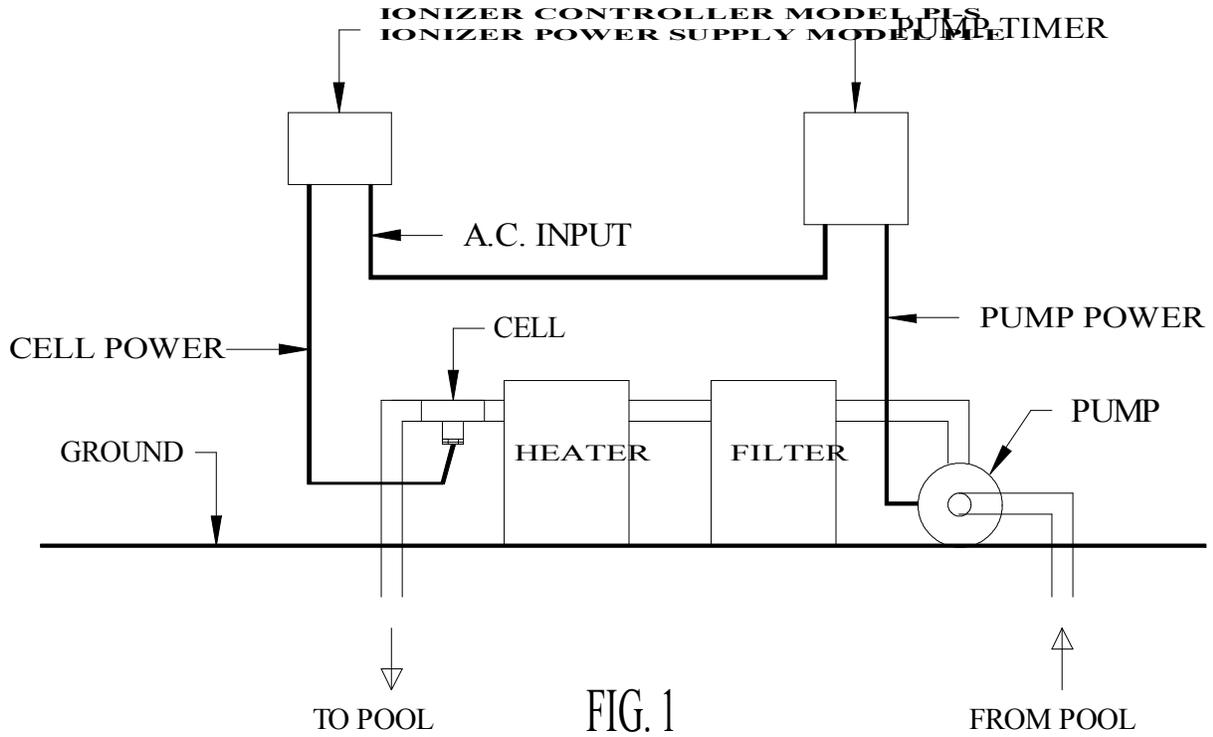

FIG. 1
3. Install the cell after the filter. If this is not possible then before the filter is OK. See FIG. 1. The electrode cell must be at the bottom or side so that no air will be trapped in the cell. The black line on the cell must always be inline with the water flow. See FIG. 2. Cut a 2 3/4" section of pipe out where the electrode cell will be installed if your existing pipe is 2" PVC. Cut a 3 1/2" section out if your existing pipe if it is 1 1/2" PVC. Glue the 1 1/2" x 2" bushings into the 2" tee using PVC glue if your existing pipe is 1 1/2". Do not use the bushings if your existing pipe is 2" PVC. Glue the tee in place using PVC glue making sure it is installed so no air will be trapped in the cell. See FIG. 3. If you are not sure how to install the cell you should have a swimming pool contractor do it for you.